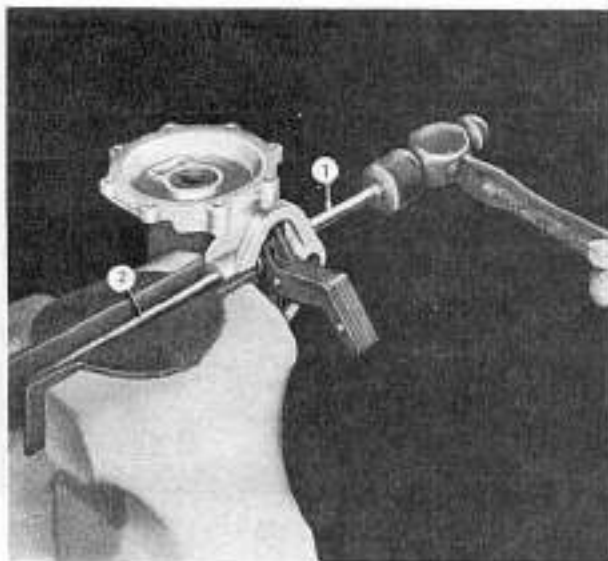

FIG. 395
Drive in the permanent rocker arm pin (1, Fig. 395), pushing the tool PT-6, KMO-707 (2) ahead of it. Place the washer over the small end of the pin and spread the pin end.